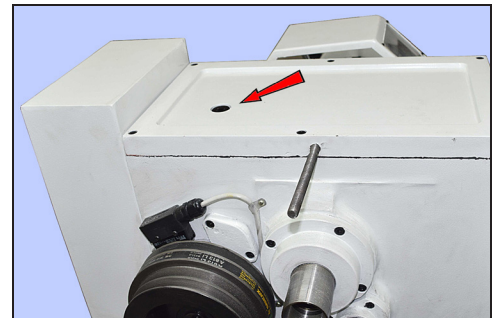

Figure 4-1 Headstock fill plug (representative)
2. Remove the fill plug on the top surface of the headstock, Figure 4-1.